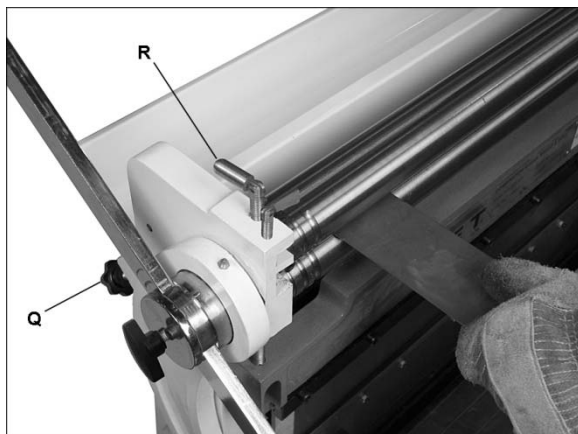

Figure 12
2. Back off idle roll completely by rotating *idle roll screws* (Q, Figure 12) counter-clockwise.
3. Loosen *bolt* (R, Figure 12) to increase space between upper and lower press rolls.
4. Insert material between upper and lower rolls, and tighten bolt (R, Figure 12) to lower the upper roll, until material fits snugly. The upper roll must have sufficient pressure on work piece to feed properly.
5. Rotate both *idle roll screws* (Q, Figure 12) to adjust idle roll's proximity to the two main rollers. *Raise both ends an equal amount.*